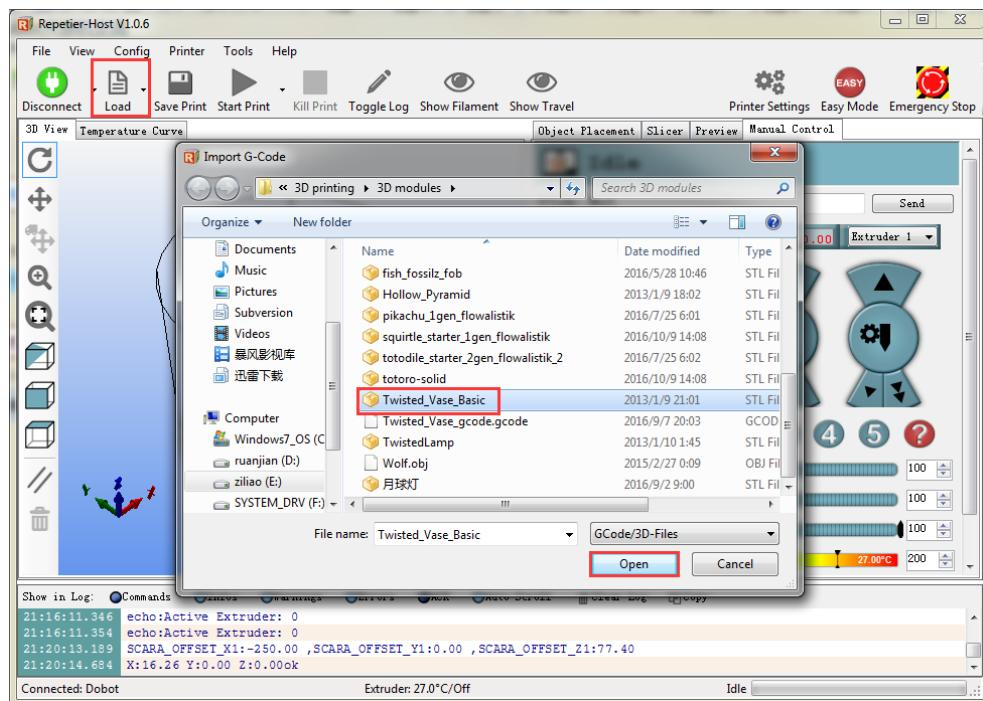

Figure 5.123 Import 3D printing Model
**Step 5** Click **Load** to import the prepared 3D printing model, as shown in Figure 5.123. You can also load 3D printing model which are DobotStudio, the loading path is